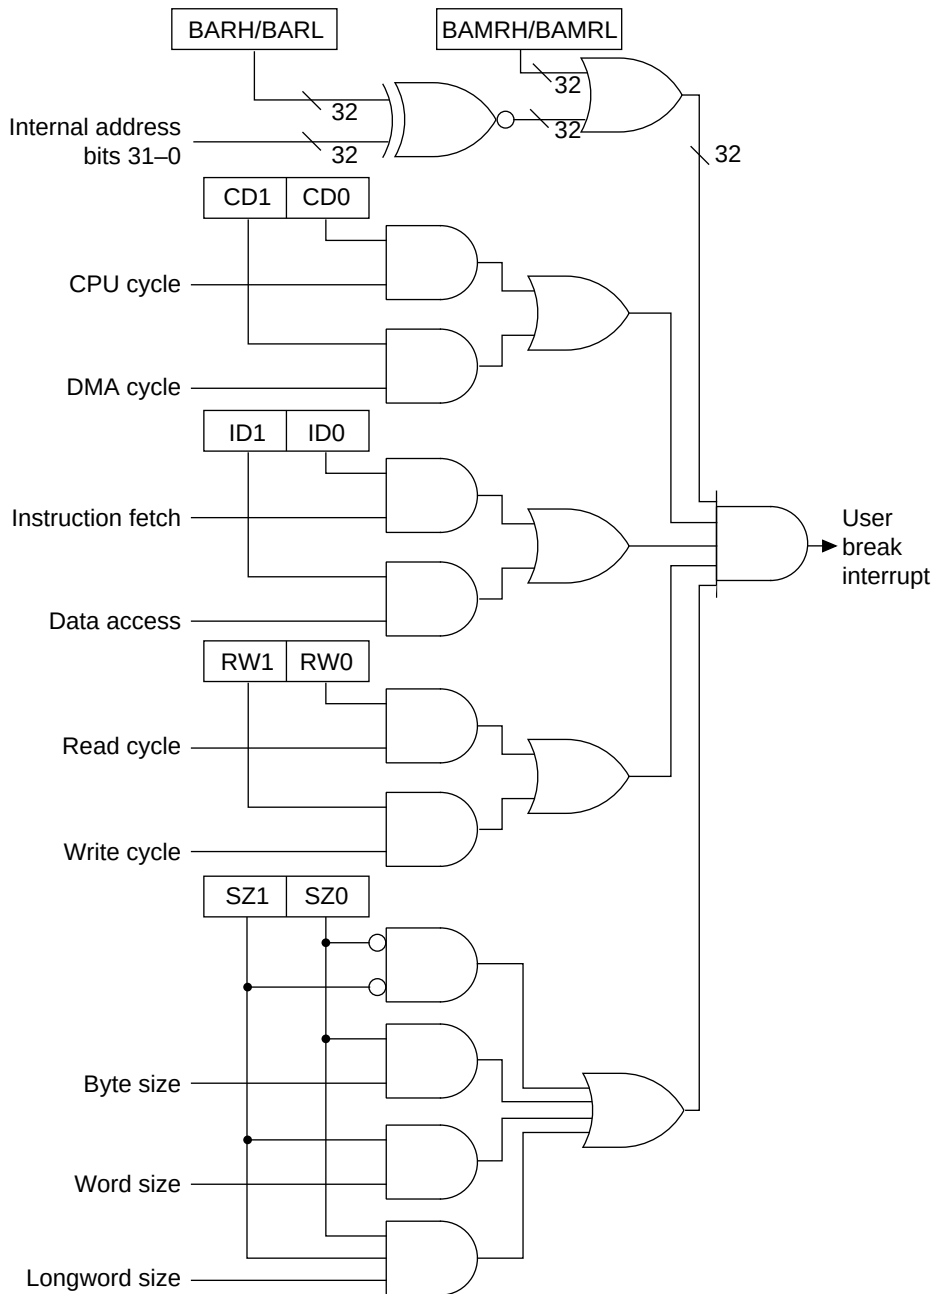

**Figure 6.2 Break Condition Logic**
2. The UBC checks to see if the set conditions are satisfied, using the system shown in figure 6.2. When the break conditions are satisfied, the UBC sends a user break interrupt request to the interrupt controller.
3. On receiving the user break interrupt request, the interrupt controller checks its priority level. The user break interrupt has priority level 15, so it is accepted only if the interrupt mask level in bits I3–I0 in the status register (SR) is 14 or lower. When the I3–I0 bit level is 15, the user break interrupt cannot be accepted, but is held pending until user break interrupt exception handling is carried out. NMI exception handling sets I3–I0 to level 15, so a user break cannot occur during the NMI handling routine unless the NMI handling routine itself begins by reducing I3–I0 to level 14 or lower. Section 5, Interrupt Controller (INTC), describes the handling of priority levels in greater detail.